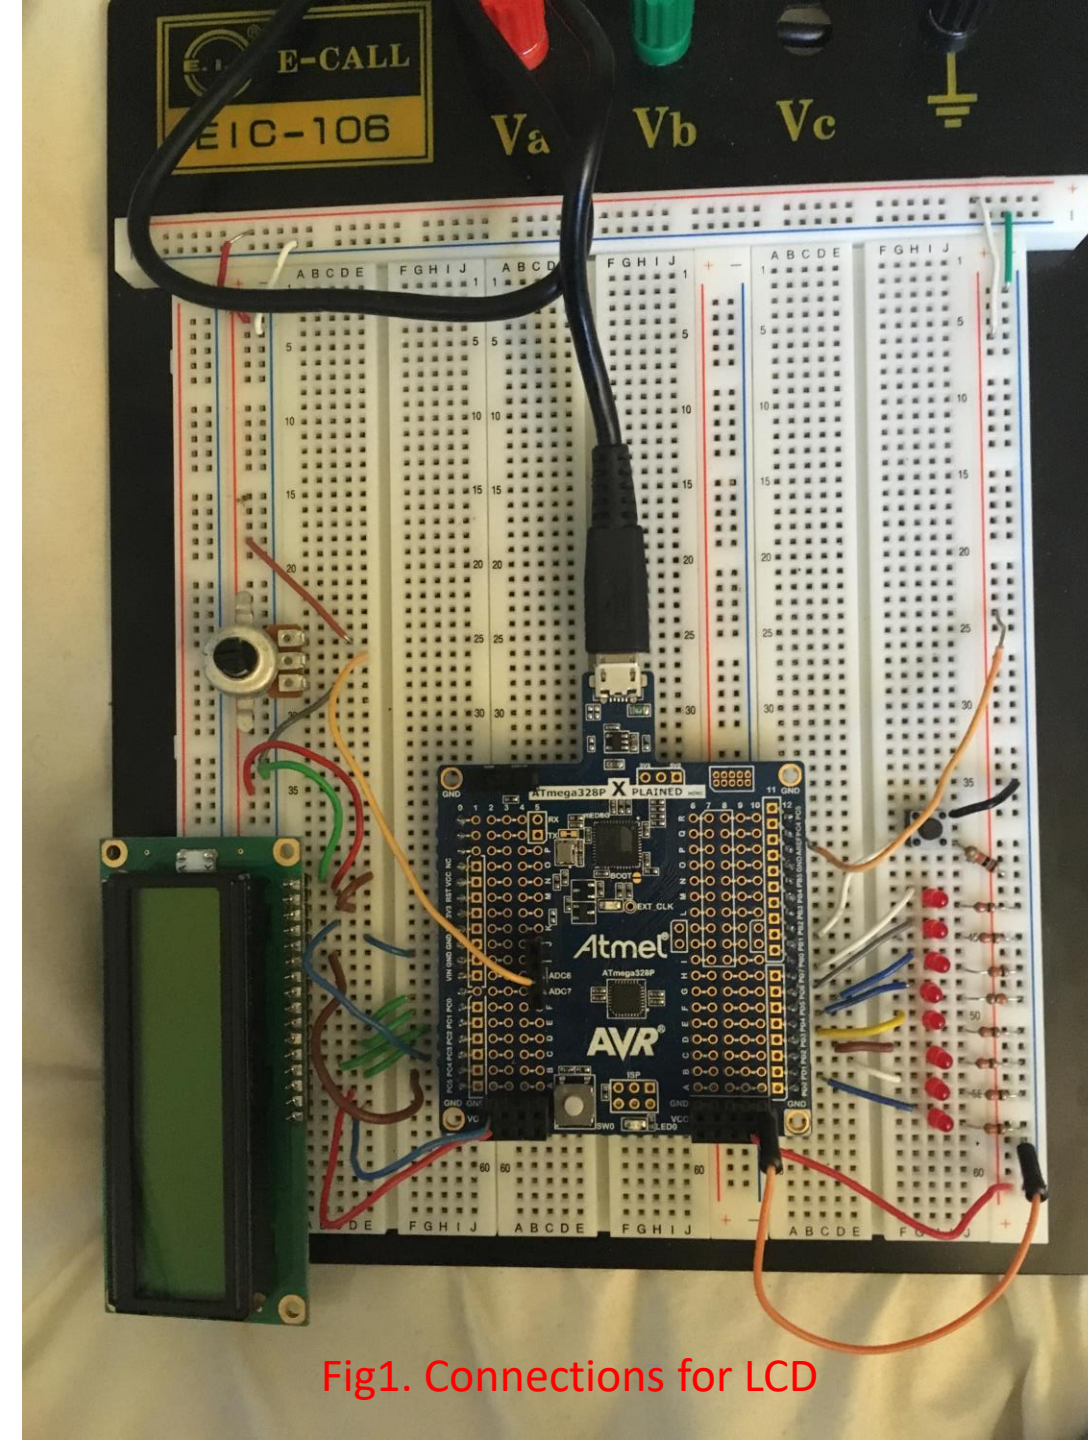

Fig1. Connections for LCD
- Connect the board as in Fig.1.